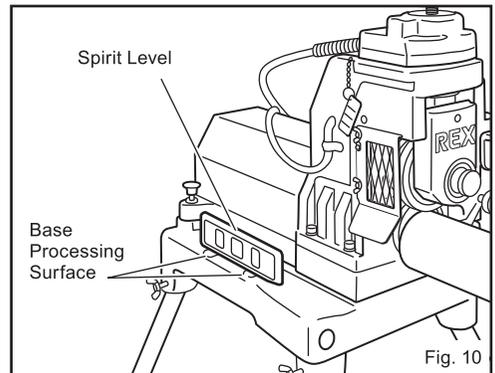

Fig. 10
- * Check the machine is horizontal using the spirit level on the base processing surface. (Fig. 10, 11)